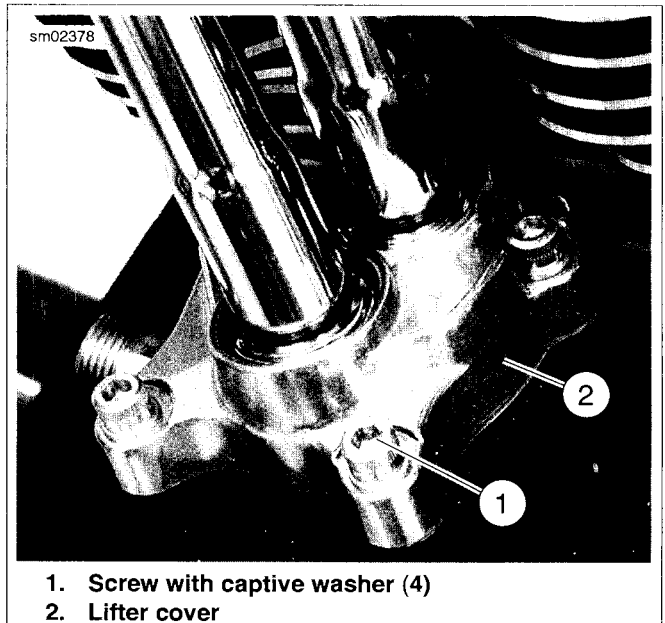
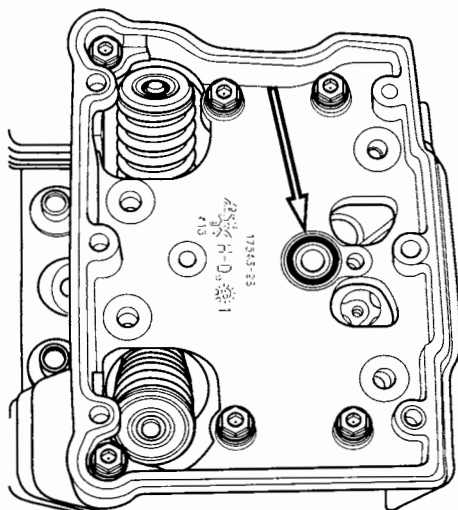

Figure 3-22. Lifter Cover
Figure 3-23. Breather Baffle Hole O-Ring
2. See Figure 3-22. Remove lifter covers.
- a. Using a crosswise pattern, remove four screws with captive washers (1) to release the lifter cover (2).
4. See Figure 3-23. Remove and discard O-ring from groove around breather baffle hole in rocker housing.